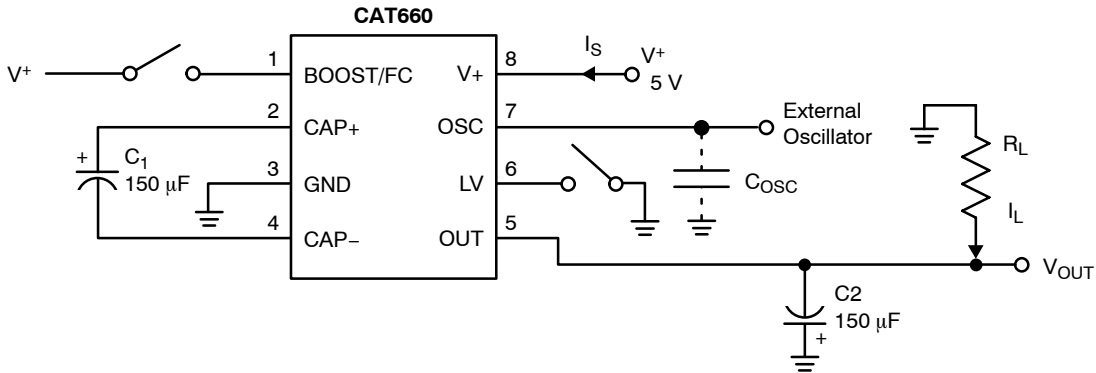

Figure 3. Test Circuit
Table 3. ELECTRICAL CHARACTERISTICS (V+ = 5 V, C1 = C2 = 150 μ F, Boost/FC = Open, C_{OSC} = 0 pF, inverter mode with test circuit as shown in Figure 3 unless otherwise noted. Temperature is over operating ambient temperature range unless otherwise noted.)
1. In Figure 3, test circuit capacitors C1 and C2 are 150 μ F and have 0.2 Ω maximum ESR. Higher ESR levels may reduce efficiency and output voltage.
(Typical characteristic curves are generated using the test circuit in Figure 3. Inverter test conditions are: $V_+ = 5\text{ V}$, $LV = \text{GND}$, $\text{BOOST/FC} = \text{Open}$ and $T_A = 25^\circ\text{C}$ unless otherwise indicated. Note that the charge-pump frequency is one-half the oscillator frequency.)